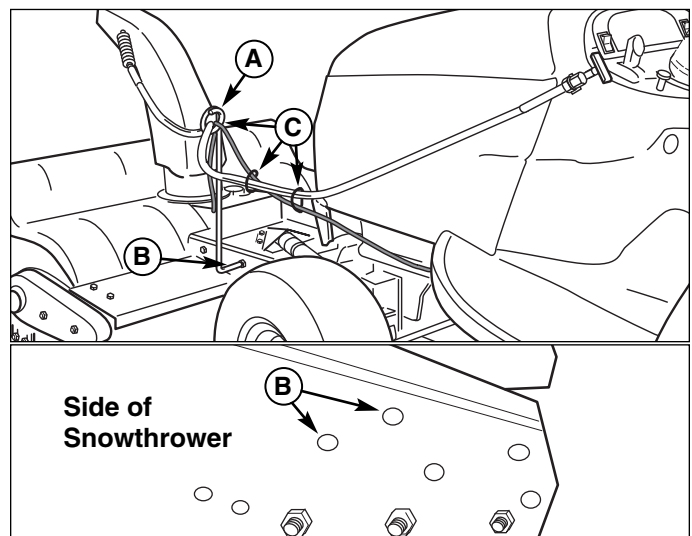

Figure 22. Deflector Control Cable Support Arm
1. Assemble the deflector control cable support arm (A, Figure 22) to the left side of the snowthrower using one 5/16-18 x 1" capscrew, lockwasher, and nut using the holes (B) shown in Figure 22.
2. Route the remote deflector control cable and spout rotator motor wires through the cable guide (A, Figure 22).
1. Secure the spout rotator wire harness to the remote deflector control cable as shown in Figure 22 using cable ties (C).
1. Connect the electric discharge chute rotator motor leads to the wire harness. Route the wire harness through the control cable support arm (see Figure 22).